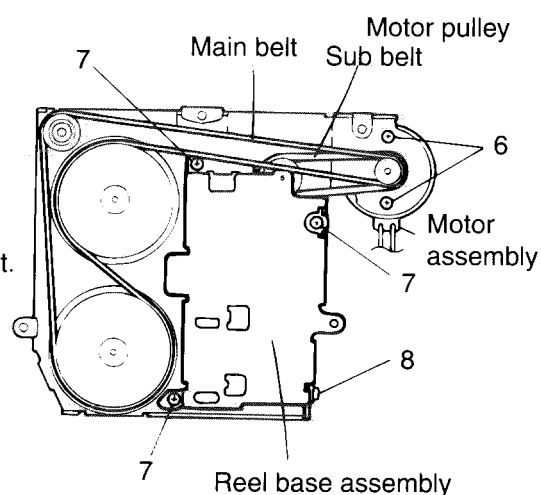

Fig. 8
■ **Removing the Motor Assembly (See Fig. 8)**
2. Remove the two screws (6) retaining the motor assembly.
■ **Changing the Sub-Belt (See Fig. 8)**
3. Remove the four screws (7), (8) retaining the reel base assembly.
(See Fig. 8 and 10)